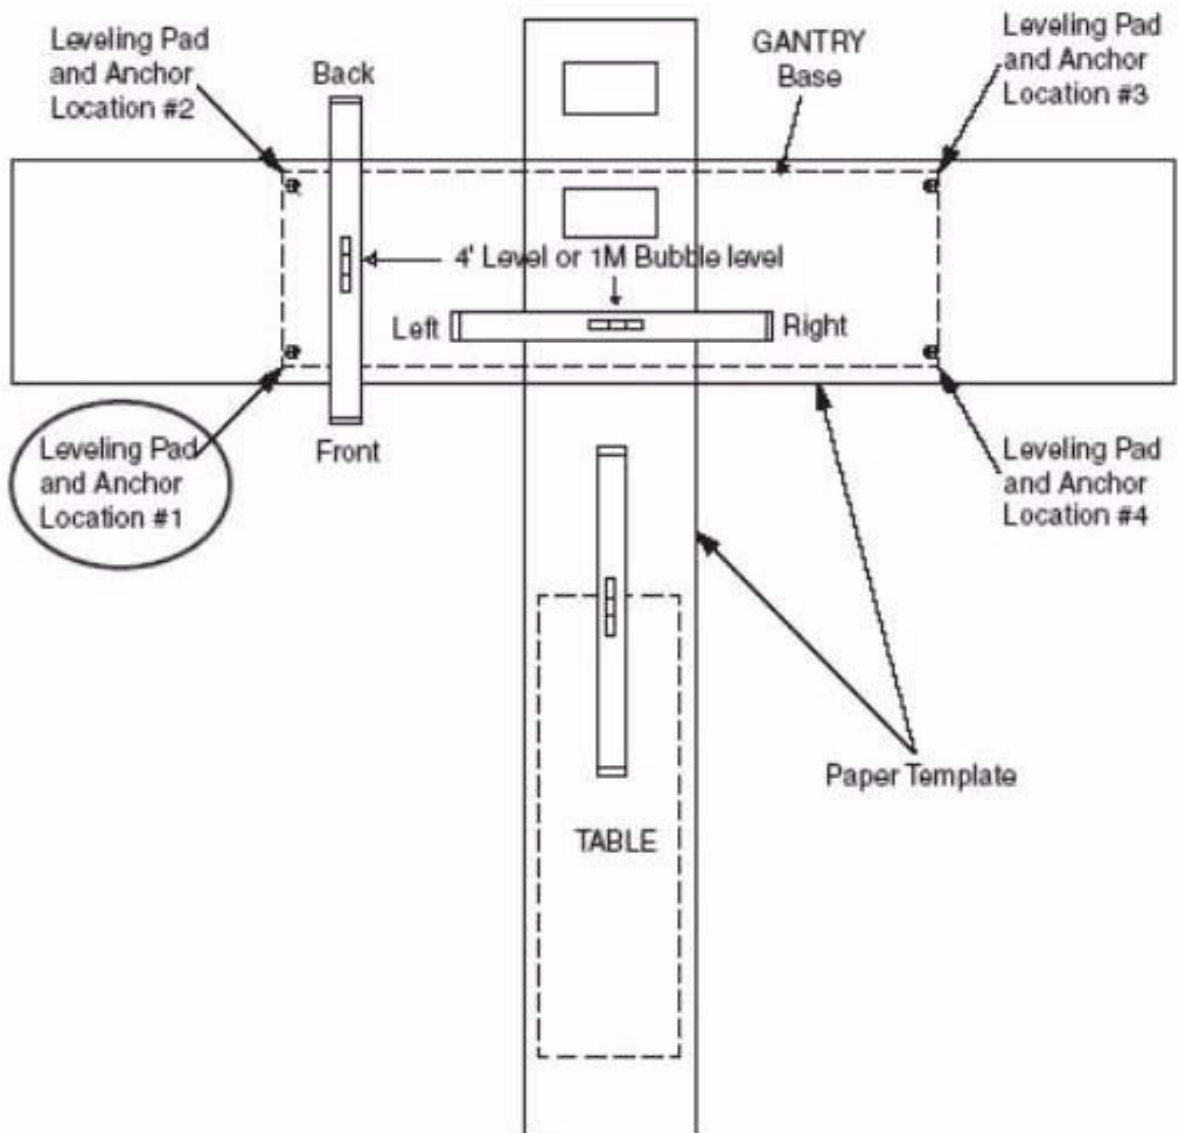

Figure 8-11 Determining Floor Levelness
- Refer to the steps listed in Section 3.1.3 and to Figure 8-11 to check whether the floor of the scan suite meets the floor levelness specifications for the system.
- 5.) Use a laser to check the levelness of the floor across the entire area covered by the template, as shown in Figure 8-11.